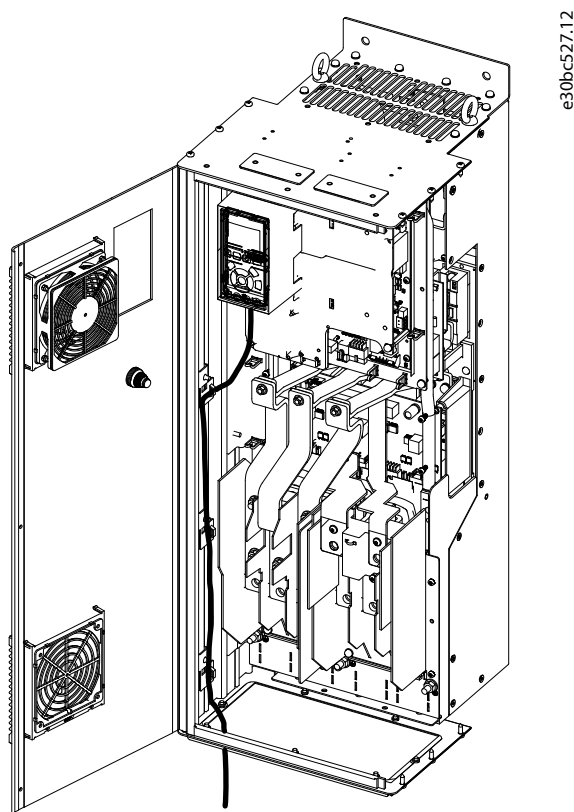

Figure 12: Wiring of Enclosure Sizes D, E, and F
3. Tie down the cable and route it with other control wires inside the unit as shown in Figure 12.